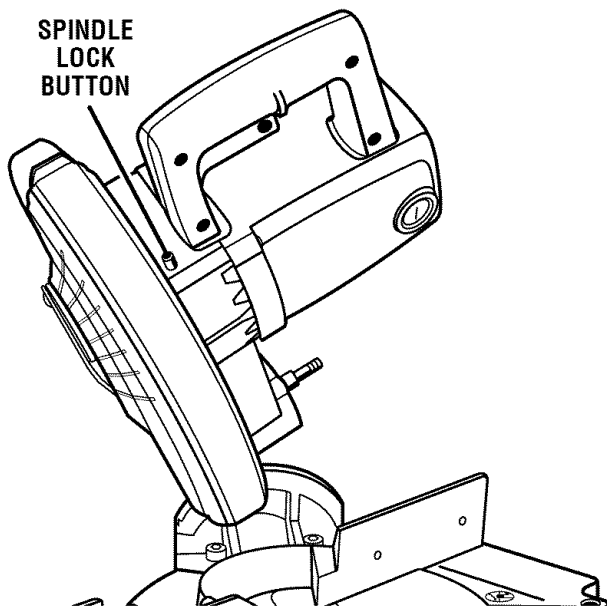

Fig. 14
- Depress spindle lock button and replace blade bolt. See Figure 14.